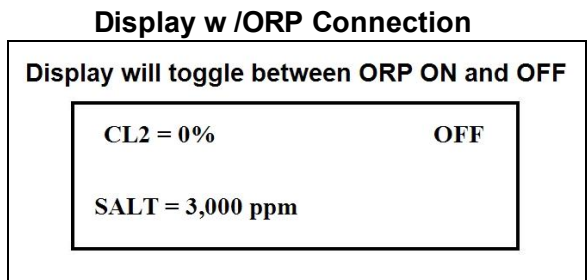

Figure 26
4. Adjust the purifier output level to 0%. The controller will takeover purifier output. The display will show as seen in Figure 26.